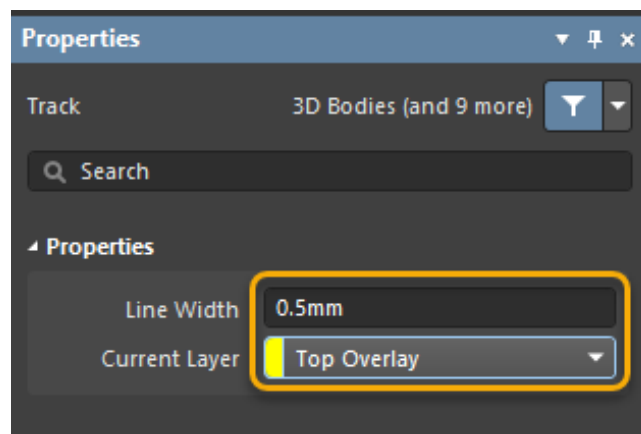

Figure 41. Line Properties
62. Next, hit the **Tab** key to open the *Properties* panel, set the Line Width to 0.5mm, see Figure 41. Press **Enter** or select the pause symbol  to continue the line placement.